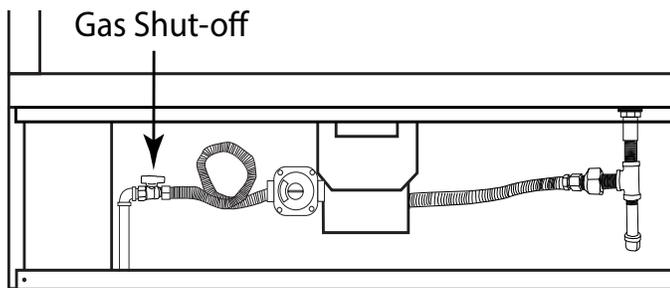

Fig. 1 Close up view of inlet gas connection with shut-off valve.
**GAS LINE:** The gas line must have a predetermined location to enable it to be installed. Fig. 1 shows one example of an inlet gas line with a gas shut off at the fireplace. This allows a technician to shut the inlet gas supply OFF and remove the burner for servicing. Ensure you follow the local and state gas codes per your installation.
3. The primary gas shut-off (supplied) will require a  $\frac{1}{2}$ " male flared fitting to enable connection of the stainless steel flex gas line supplied with the fireplace (See Fig. 1 page 6).